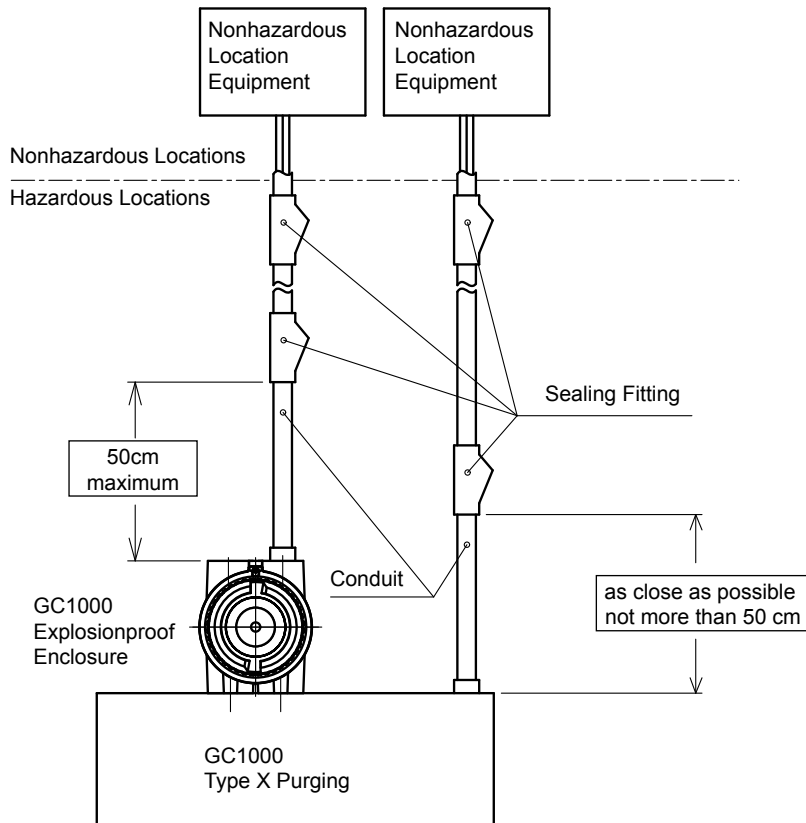

Figure 2.8
- In hazardous location, wiring for explosionproof enclosure and type X purged enclosure to be in conduit as shown in the Figure 2.8.